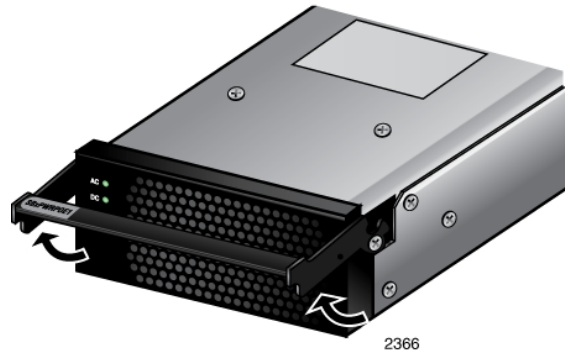

Figure 68. Unlocking the Handle on the AT-SBxPWRPOE1 Power Supply
4. Raise the locking handle on the AT-SBxPWRPOE1 Power Supply, as shown Figure 68 on page 142.